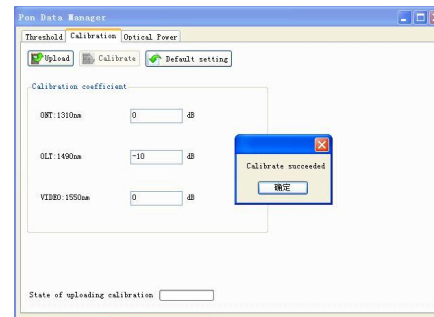

Figure 4
4. Set the proper value in the relevant box,value can not be blank(blank default as “0”,adjust range is $\pm 10\text{dB}$),then push the “calibration”button,wait for seconds,display the window in fig4.